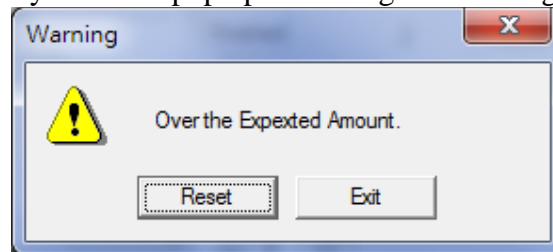

Fig. 3.1.06
**Expected Amount:** Set the expected marking amount. If the marking reach the setting value, the system will pop up a warning box like Fig.3.1.06.